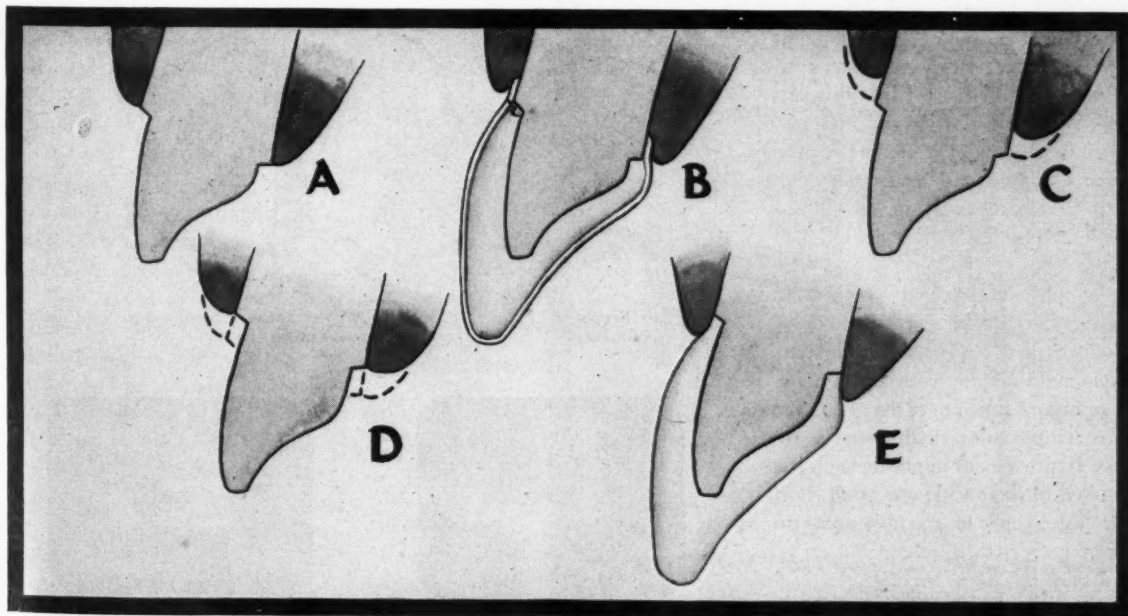

Fig. 12
Fig. 12—(A) The tooth is prepared in the usual manner with the shoulder under the free margin of the gingiva. (B) Trim a celluloid crown form, fill with soft gutta-percha, and press into position. Trim away the excess gutta-percha. (C) When the patient returns in a day or two, the gum tissue will be sufficiently retracted to permit further preparation of the shoulder. (D) When the shoulder is extended apically, the impressions may be made. Insert another crown form with soft gutta-percha to remain in the tooth until the jacket crown has been completed. (E) This method prevents a "cement line" from showing at the margin of the jacket and the tooth preparation, and is adaptable to all types of jacket preparations.